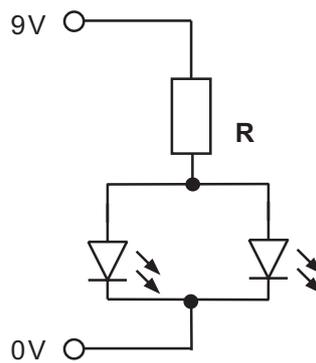

Fig. 9(b)
- (i) Calculate the value of resistance **R** required to allow the LEDs in Fig. 9(b) to function when operating at the maximum current. [3]
- (ii) Calculate the power dissipation in mW, of the resistor **R** in Fig. 9(b) when the maximum current is flowing. [2]